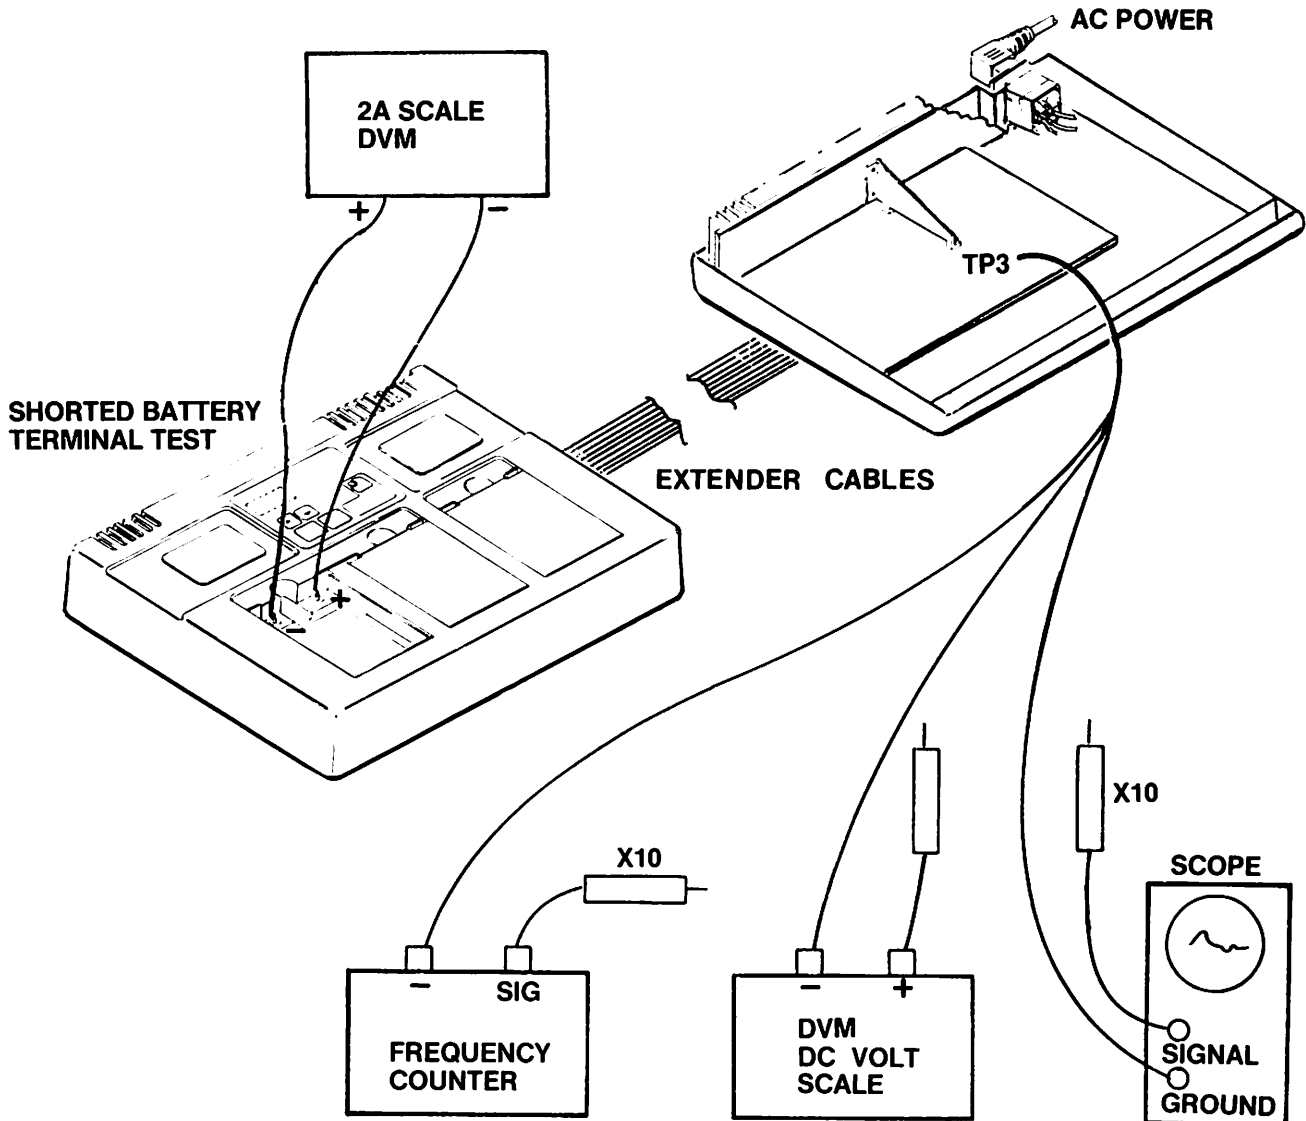

FIGURE 4-1. TEST SETUP
- 4-11. Test Setup. Assemble appropriate test setup per Figure 4-1. Separate top case from lower case and install extender cables as necessary to provide easy access to test points.